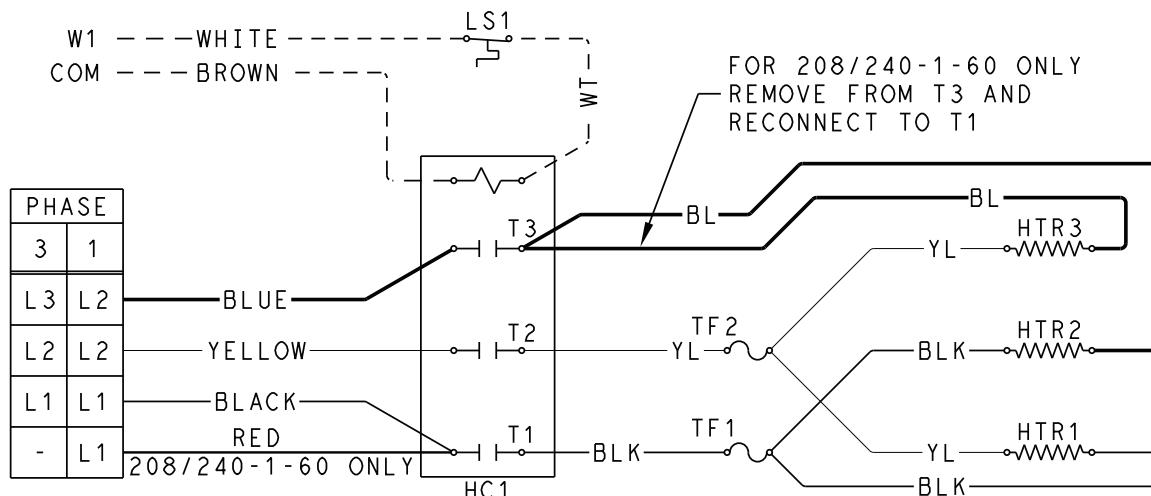

Fig. 14 — Single-Phase Heater Wiring
Three-phase applications: Skip to Step 5. For single-phase application, rewire the heater as follows (see Fig. 14):
- Connect RED wire provided with kit to Heater Contactor (HC1) and to L1. (See Fig. 14.)